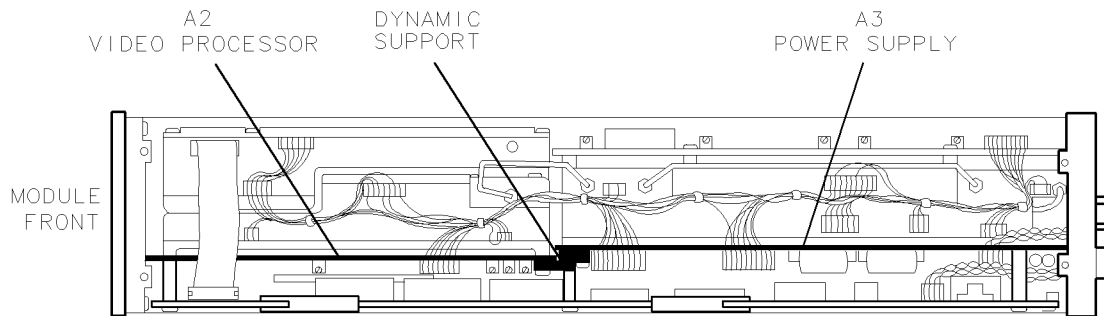

Figure 4. Dynamic Support Installation
1. Use the two M3.0 × 0.5 × 12 mm screws shipped with the upgrade kit to install the dynamic support (HP part number 70900-20095) to both A2 Video Processor Board Assembly and A3 Power Supply Board Assembly. The dynamic support is mounted on the top edge of the two board assemblies where they adjoin. It is keyed in such a way as to fit properly in one position. See Figure 4.